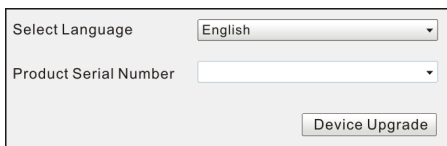

Figure 7-8
4. Launch the update tool, a screen similar to Figure 7-8 will appear.